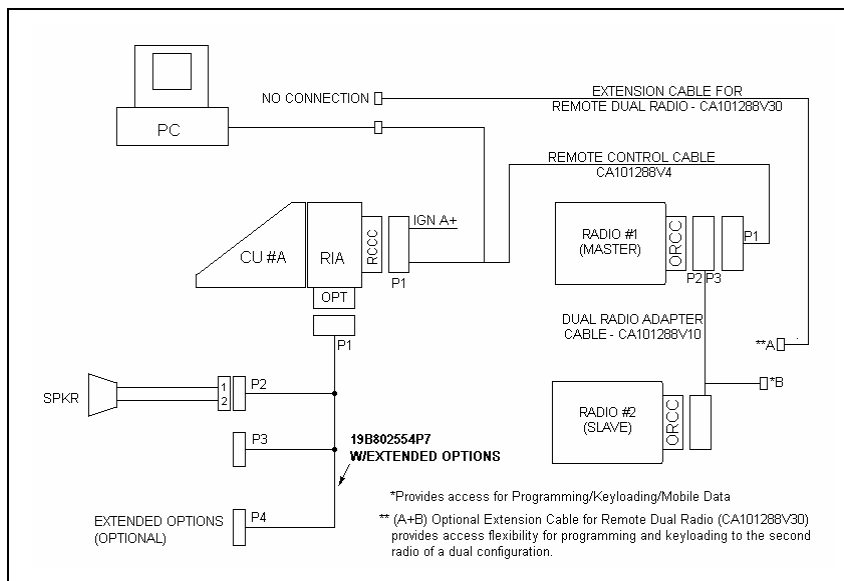

Figure 12-2: M7100 Dual Radio Remote Mount/Remote Mount Installation Configuration
1. Plan the mounting locations of the two Radio Units. Note that the maximum cable length allowed between the two radios is two meters. Referring to Figure 12-2, run Dual Radio Cable (CA101288V10) between locations for Master and Slave Radio Units. Be sure to locate the P2/P3 connector assembly at the Master Radio Unit.